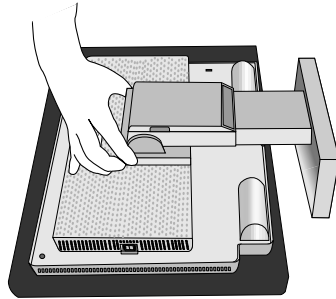
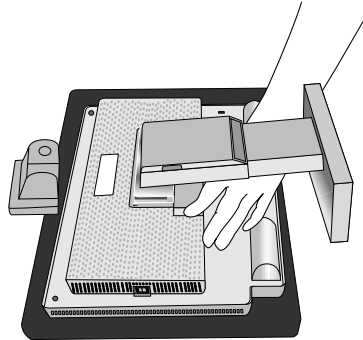

Figure R.1
Figure R.2
4. Remove the hinge cover. (**Figure R.1** and **Figure R.2**)